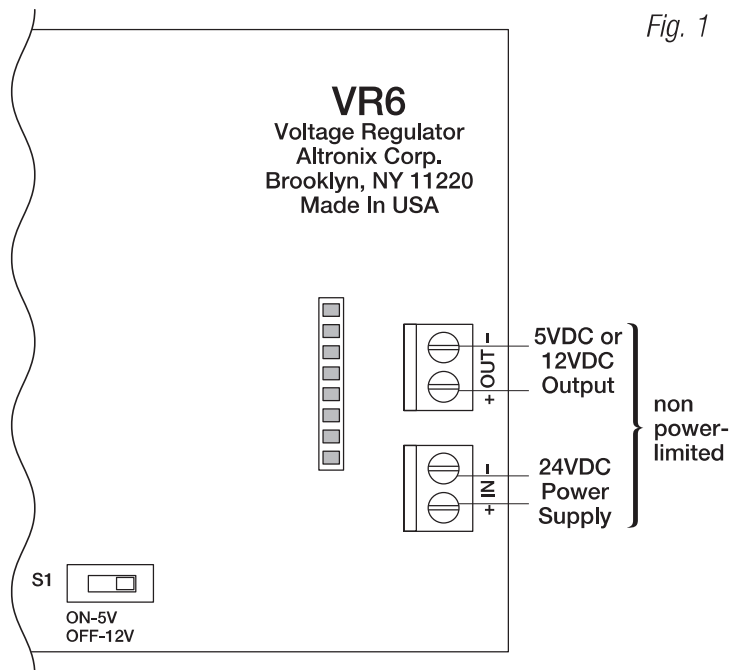

Fig. 1
2. Connect 24VDC power source to the terminals marked [+ IN -] (Fig. 1 pg. 2).
4. Connect power distribution module to the terminals marked [+ OUT -] (Fig. 1 pg. 2).